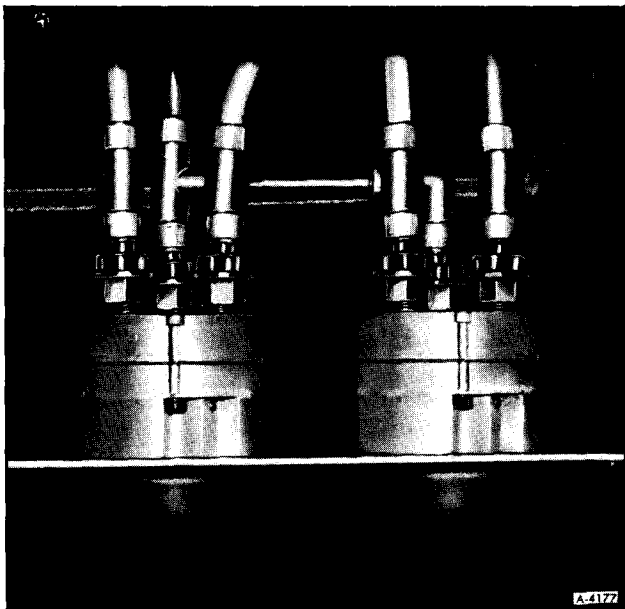

Figure 20—Power Level Panel Removed
2. Pull panel and valve assemblies out of the way, as shown in Figure 20.
1. Remove four screws from power lever control mounting panel, and pull valves and panel out (figure 20).